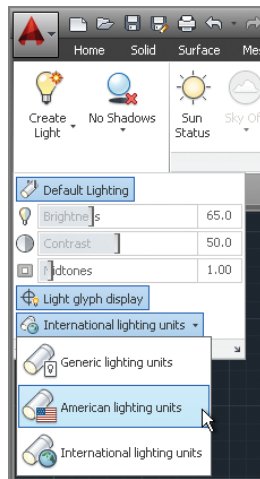

FIGURE 18.6
2. Select the ribbon's Render tab, and expand the Lights panel. Open the menu that says Generic Lighting Units (used only for the standard lighting method), and select American Lighting Units (or International Lighting Units in metric). Figure 18.6 shows this menu.